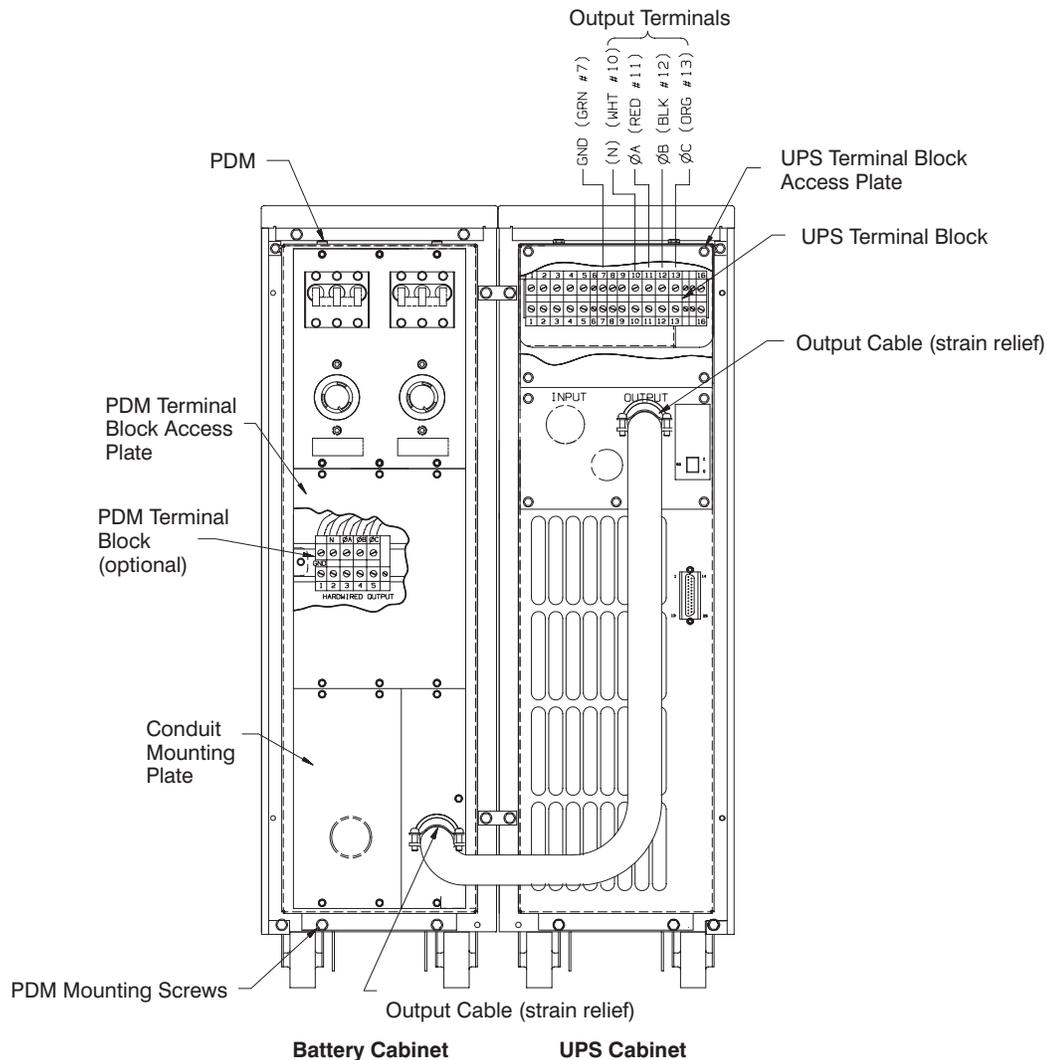

Figure 22. PDM Rear Panel with UPS and Battery Cabinets
8. Connect the wires from the PDM to the UPS output terminal block as shown in Figure 22. Refer to the label located on the inside of the PDM for terminal block torque requirements. Use only #6-AWG 75° C copper wire (minimum).